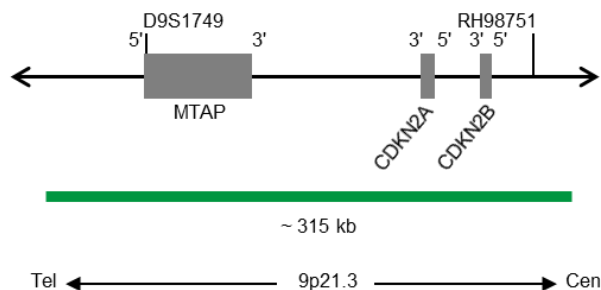

Fig. 1: SPEC CDKN2A Probe map (not to scale)
- Digoxigenin-labeled polynucleotides (~1.1 ng/ μ l), which target sequences mapping in 9p21.3* (chr9:21,742,629-22,056,853) harboring the CDKN2A gene region (see Fig. 1).